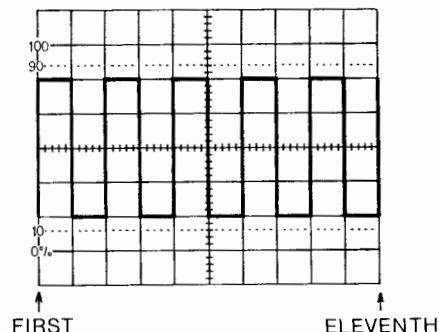

FIG. 6.1 SIX LEADING EDGE ON FIRST AND ELEVENTH GRATICULE LINES
Verify six pulses with leading edge of first and sixth pulse on first and eleventh vertical graticule lines respectively ($\pm 10\%$), as shown in Fig. 6.1
- Set Y-POS control for vertical amplitude about 4 divisions ($\pm 5\%$) to coincide with horizontal graticule lines, as shown in Fig. 6.1